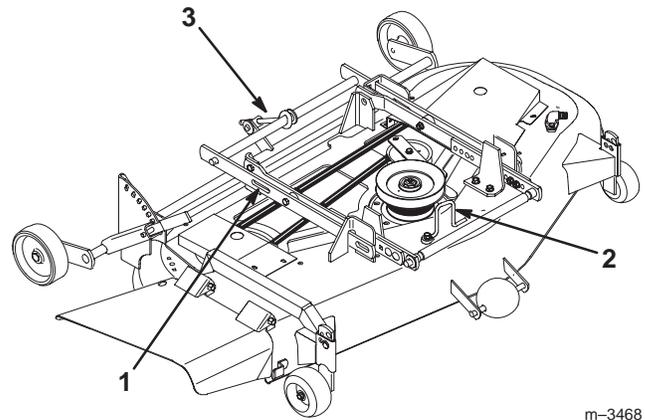

Figure 5
- After sliding the mower under the tractor, position it so that the slots in the side of each of the mower's mounting brackets (Fig. 5) are aligned directly below the tractor's attachment lift arm.